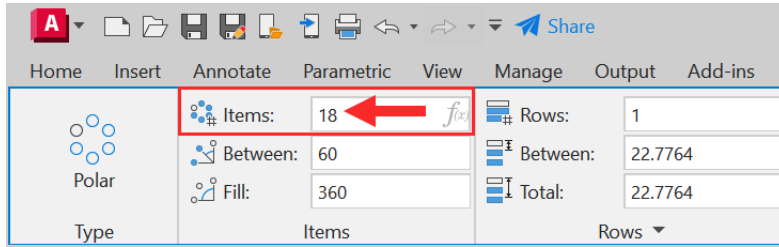

Figure 6.19: The Items field on the Items panel on the contextual Array Creation tab
8. Change the number of items to 18 in the **Items** field, as shown in *Figure 6.19*. Then, press *Enter*.